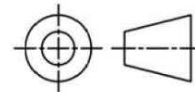

Figure 5b
- a) the two views, in projection, as shown in Figure 5b; (3)
- b) the necessary true lengths required for the development of the transition piece; (4)
- c) half of the surface development of the transition piece. The joint line is to be made along the line XX. Ignore bending allowance and sheet metal thickness. (6)